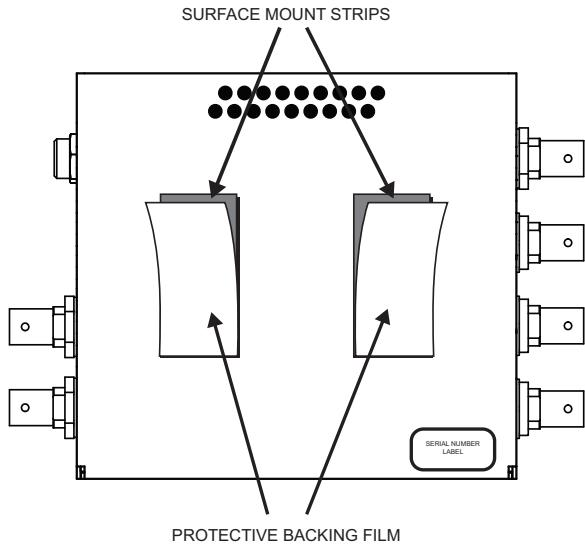

Figure 4.1 *Surface Mount Installation Option*
- Adhere the **Surface Mount Strips** to the bottom side of the chassis **Figure 4.1**.